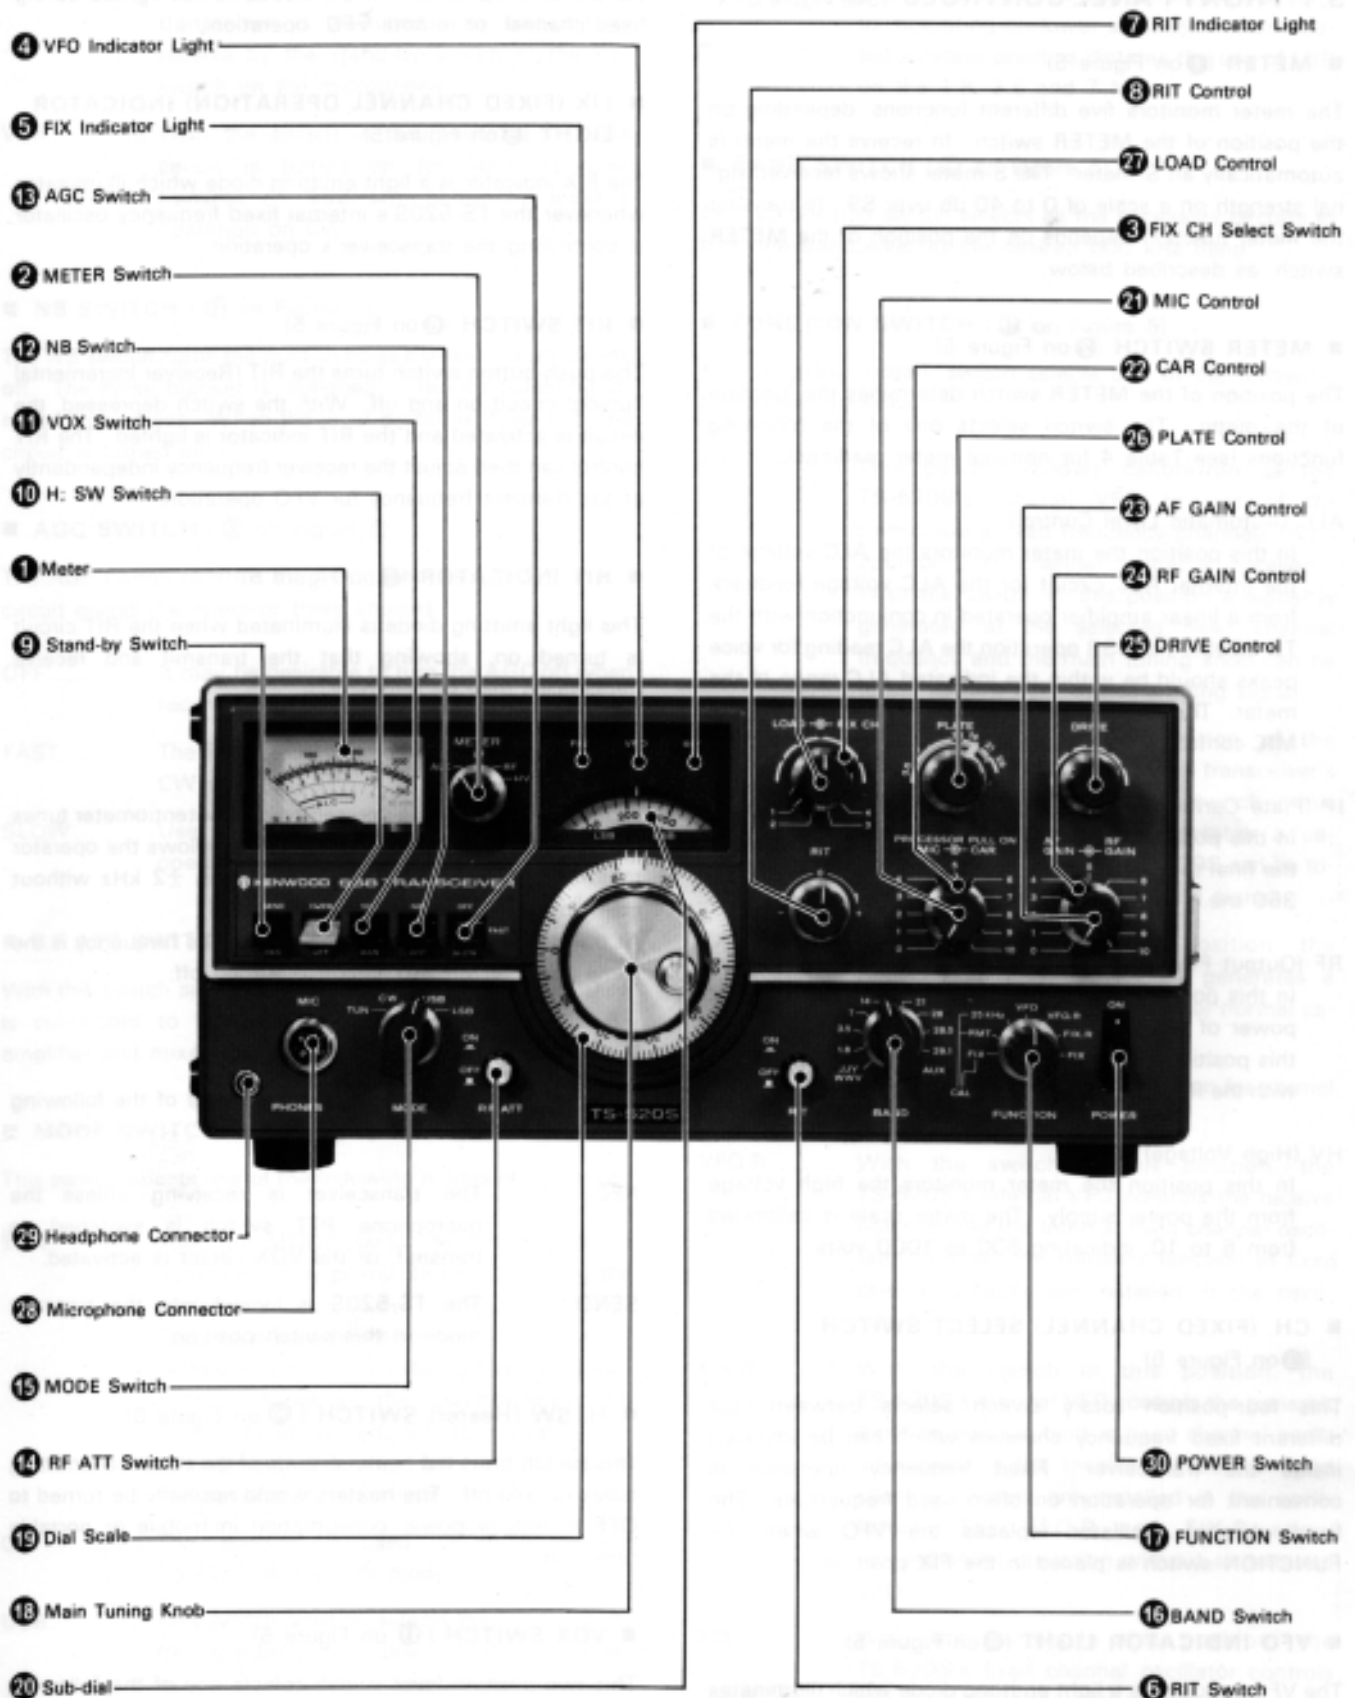

Fig. 5 Front Panel Controls
### 3.1 FRONT PANEL CONTROLS (See Figure 5)
#### ■ METER (1 on Figure 5)
#### ■ METER SWITCH (2 on Figure 5)
(3 on Figure 5)
#### ■ VFO INDICATOR LIGHT (4 on Figure 5)
#### ■ FIX (FIXED CHANNEL OPERATION) INDICATOR LIGHT (5 on Figure 5)
#### ■ RIT SWITCH (6 on Figure 5)
#### ■ RIT INDICATOR (7 on Figure 5)
#### ■ RIT CONTROL (8 on Figure 5)
#### ■ STAND-BY SWITCH (9 on Figure 5)
#### ■ H. SW (Heater) SWITCH (10 on Figure 5)
#### ■ VOX SWITCH (11 on Figure 5)
■ **NB SWITCH** (12 on Figure 5)
■ **AGC SWITCH** (13 on Figure 5)
■ **RF ATT SWITCH** (14 on Figure 5)
■ **MODE SWITCH** (15 on Figure 5)
■ **BAND SWITCH** (16 on Figure 5)
■ **FUNCTION SWITCH** (17 on Figure 5)
■ **MAIN TUNING KNOB** (18 on Figure 5)
■ **DIAL SCALE** (19 on Figure 5)
■ **SUB-DIAL** (20 on Figure 5)
(21 on Figure 5)
■ **CAR CONTROL** (22 on Figure 5)
■ **AF GAIN CONTROL** (23 on Figure 5)
■ **RF GAIN CONTROL** (24 on Figure 5)
■ **DRIVE CONTROL** (25 on Figure 5)
■ **PLATE CONTROL** (26 on Figure 5)
■ **LOAD CONTROL** (27 on Figure 5)
■ **MIC CONNECTOR** (28 on Figure 5)
■ **PHONES JACK** (29 on Figure 5)